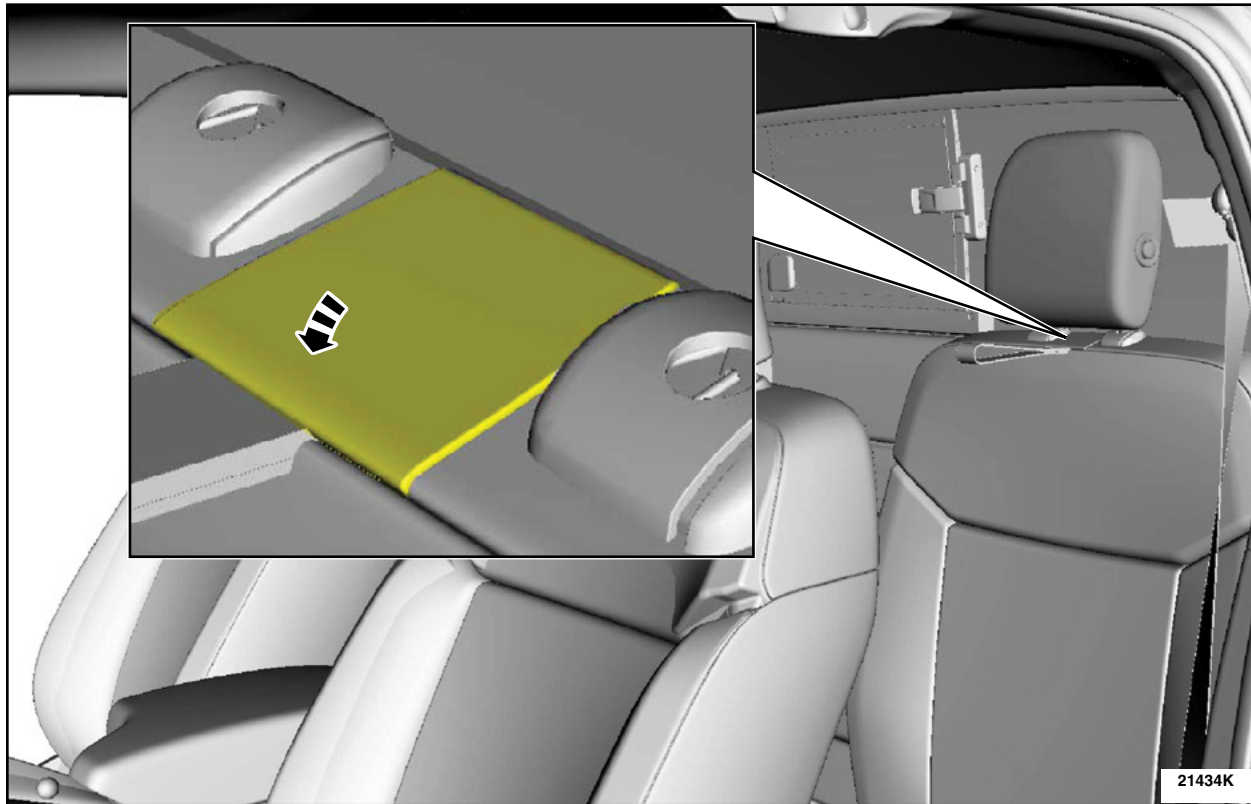

FIGURE 11
13. On both sides, position back the rear seat backrest bolt covers. See Figure 11.